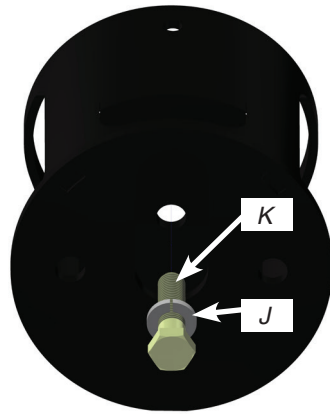
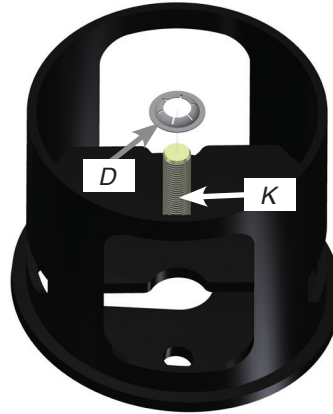

fig. 7
fig. 8
2. Insert long bolt (K) with lock washer (J) through the upper bracket center mounting hole (fig. 7). Retain the bolt to the upper bracket (figs. 8 and 9) using push nut (D).